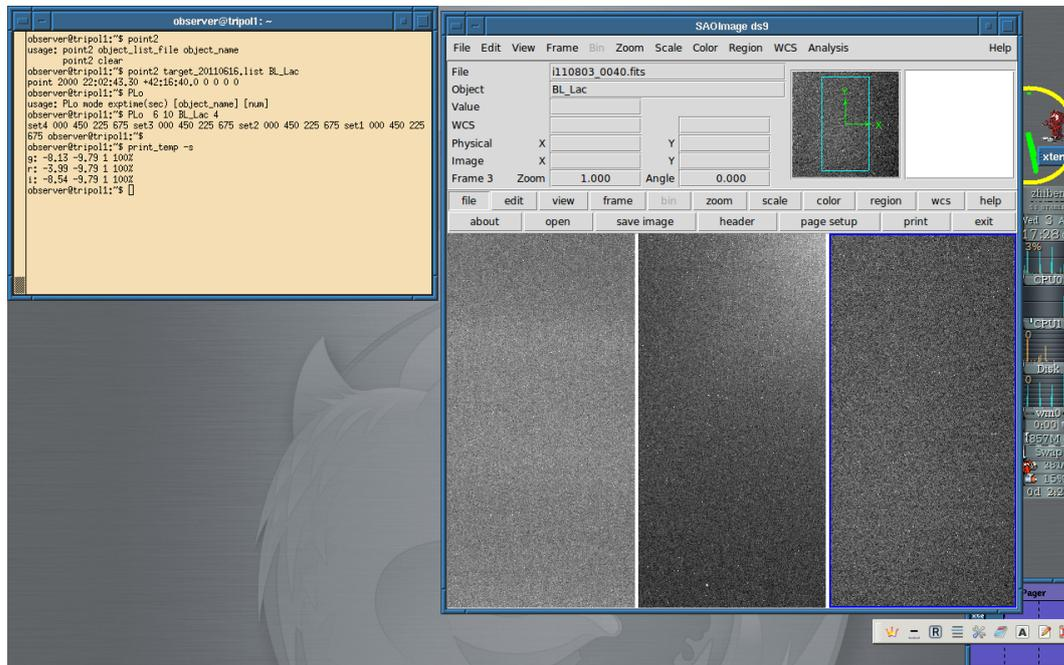

Figure 5: The user interface of TRIPOL.
- The user interface of TRIPOL system is shown in Fig. 5. We type commands on a terminal, and obtained images are shown on SAOimage DS9.